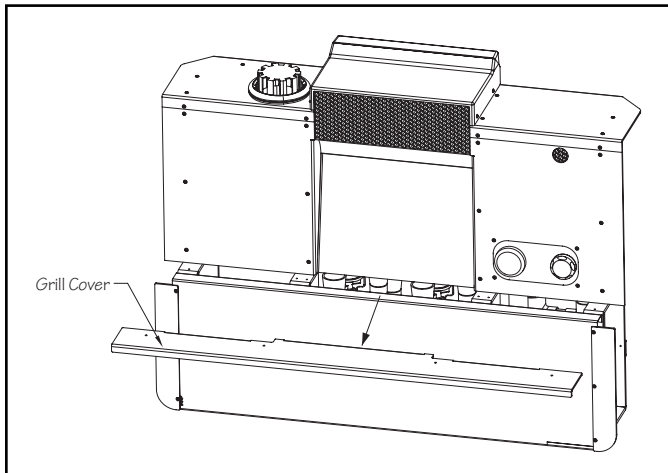

Fig. 106
2. Remove the grill cover. Fig. 106.